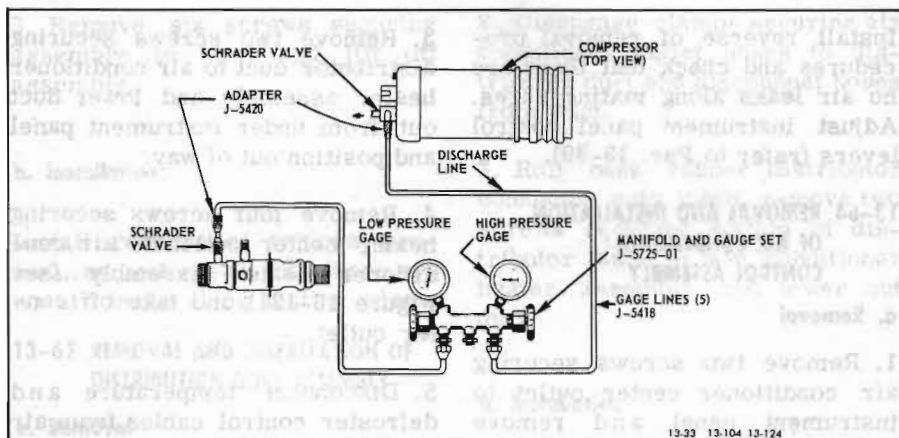

Figure 13-123—Functional Test Set-up
2. Interconnect manifold and gauge set (J-5725-01), gauge charging lines (J-5418) and gauge adaptors (J-5420) to air conditioning system as shown in Figure 13-123.